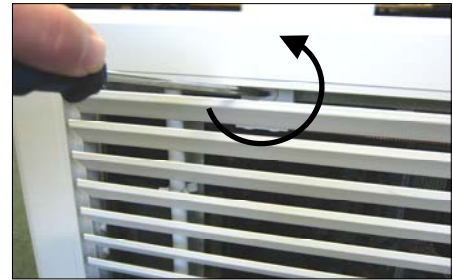

Fig 6
- Step 1** Open the hinged inlet grille using a flat bladed screwdriver to release the quarter turn fasteners (see Fig 6). There are two fasteners on the HX1000R unit and three fasteners on HX1500R and HX2000R units.